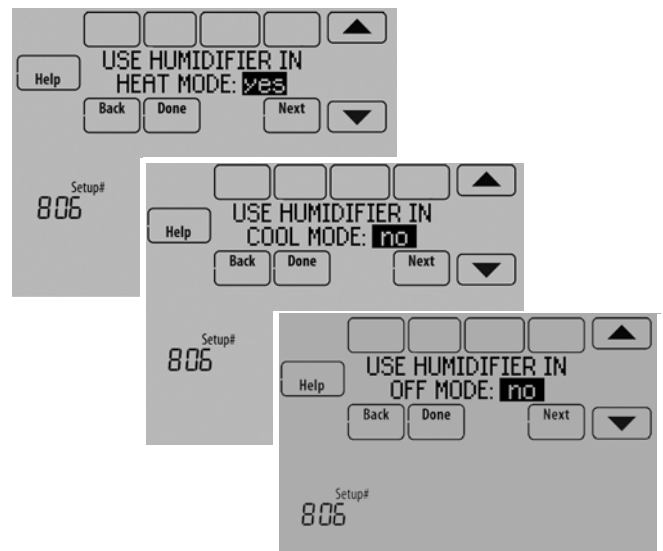

Fig. 181.
- Select the system mode(s) to allow humidification. See Fig. 181.